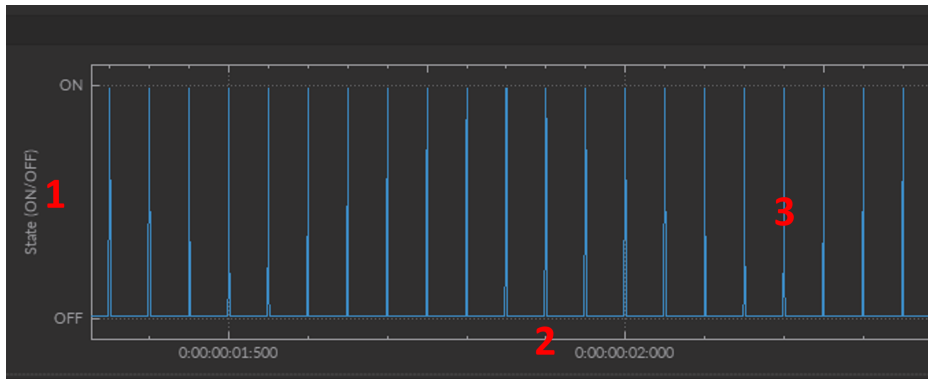

Figure 10.31: Graph(s) View - Graph
1. The **Y-axis** (Fig. 10.31, 1) displays the Digital **State** of the channel, which can be either ON (1) or OFF (0).
2. The **X-axis** (Fig. 10.31, 2) displays the time in d:hh:mm:ss:zzz.
3. The **Trace** (Fig. 10.31, 3) can be edited by selecting the **Graph** button in Section 10.3.1.1, no. 3.